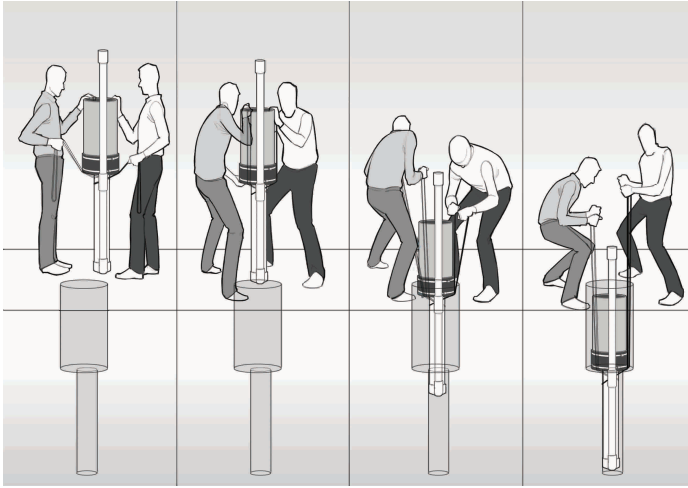

Figure 4: How to Safely Lower the Drain Gauge into the Installation Hole
1. Loop a length of heavy rope or strap below the fitting connecting the reservoir section to the access tube immediately below the junction between the DCT and reservoir section (See figure 4 below).